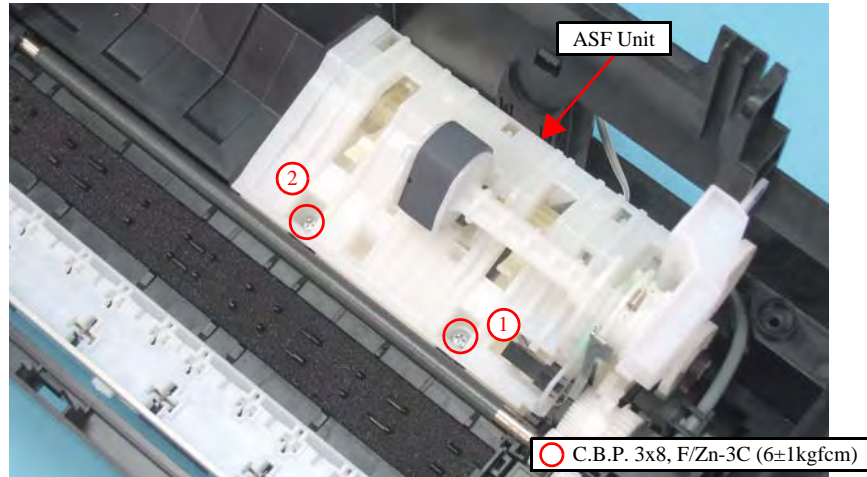

Figure 4-84. Removing the ASF Unit (1)
- Tighten the screws in the order given in Figure 4-84.